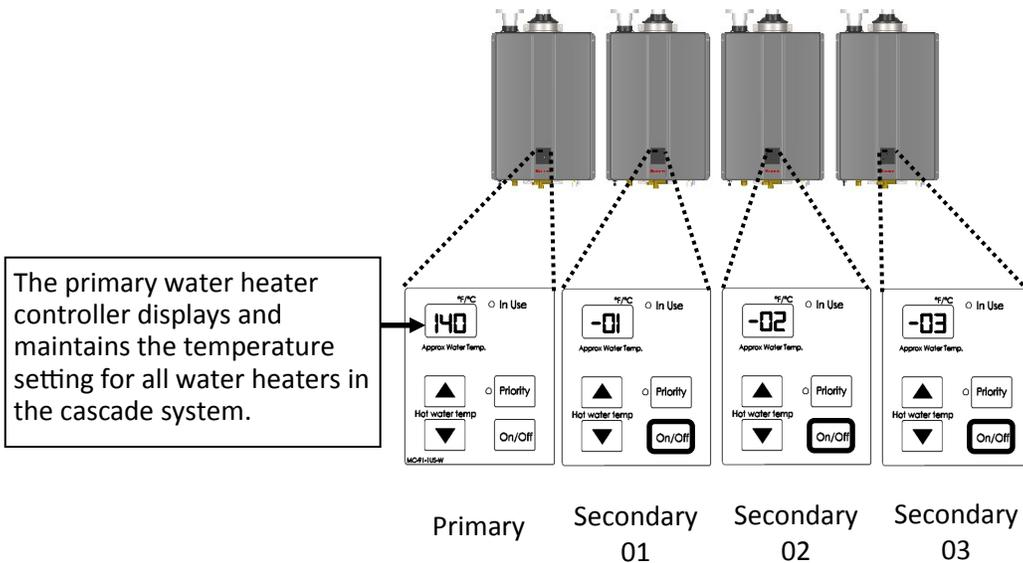

Figure 6: Primary and secondary controllers
- On each secondary water heater, press the **On/Off** button on the controller (Figure 6).
- The controller display changes from “- - -” to the newly set ID number, such as -01, -02, -03, etc. (Figure 6).